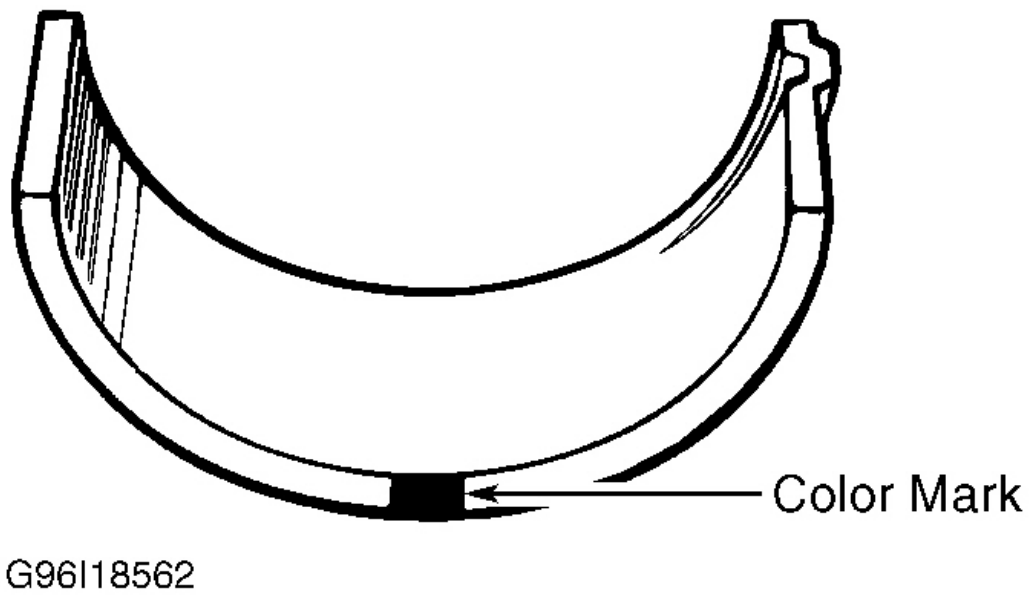
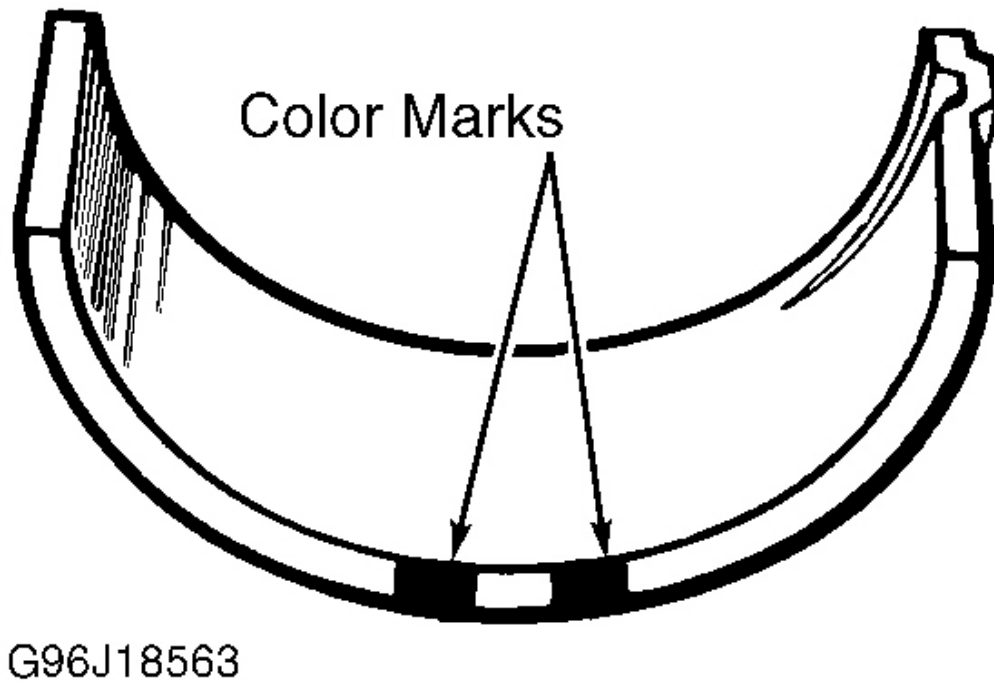

Fig. 20: Identifying Main Bearing Color Codes - Standard Bearing
Fig. 21: Identifying Main Bearing Color Codes - Undersize Bearing
4. Standard main bearings are color-coded. See **Fig. 20** and **Fig. 21** . Upper half of bearing has an oil groove. An arrow mark and number are embossed on each main bearing cap.
9. The letters stamped on cylinder block mating surface, read left to right, indicate cap bore diameters of bearing caps No. 1, 2, 3, 4 and 5, respectively. Five standard main bearing sizes are available. Bearing thickness is determined by color code. See **Fig. 20** and **Fig. 21** . See **COLOR CODE FOR STANDARD BEARINGS**.
1. Bearings are available in .010" (.25 mm) undersize. Undersize bearing thickness is determined by 2 color marks. See **Fig. 20** and **Fig. 21** . See **COLOR CODE FOR UNDERSIZE BEARINGS**.